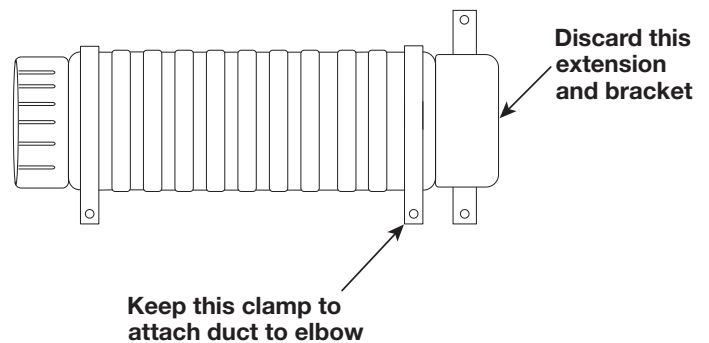

Figure 3
4. Remove extension with bracket attached from the flex pipe (discard). See Figure 3.